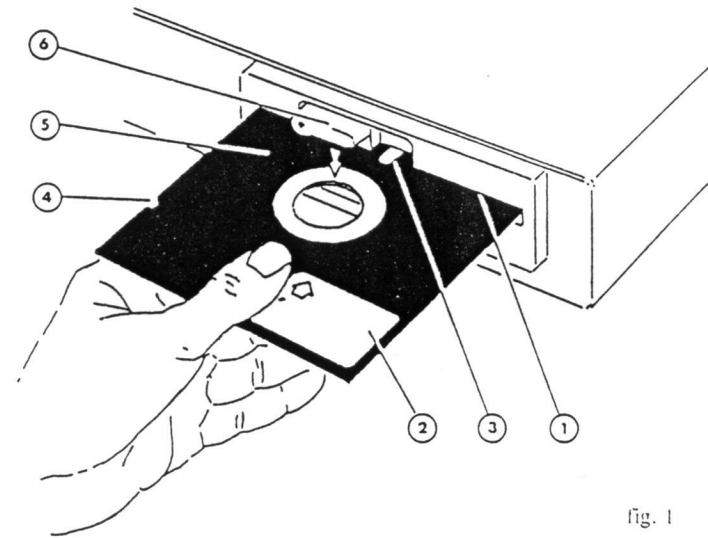

fig. 1
F. MISE EN PLACE D'UNE DISQUETTE (fig. 1)